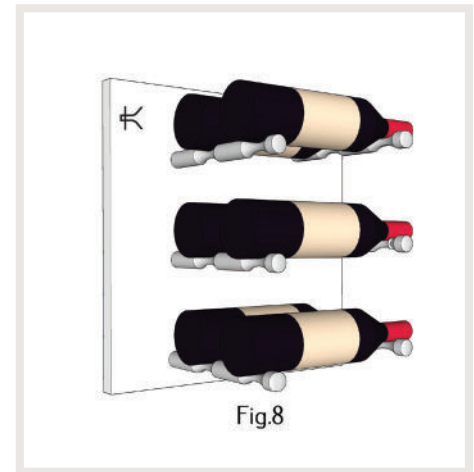

Fig.8
12. Stock your new Wine As Art WinePanel™ with wine and enjoy. **\*Fig8**